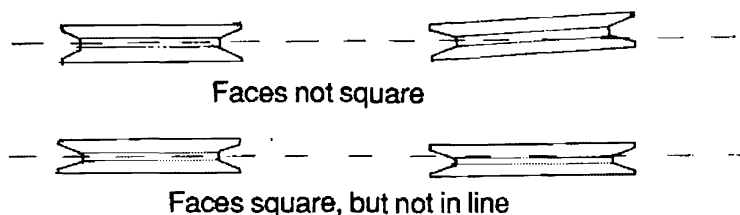

Figure 14-9. *Pulley misalignment.*
2. The driving pulleys on the stub shaft must be in correct alignment with the driven pulleys on the auxiliary equipment. A straight steel rod held in the groove of one pulley should drop cleanly into the groove on the other pulley. This should be repeated on both sides of the pulleys. Figure 14-9 gives examples of pulley misalignment.